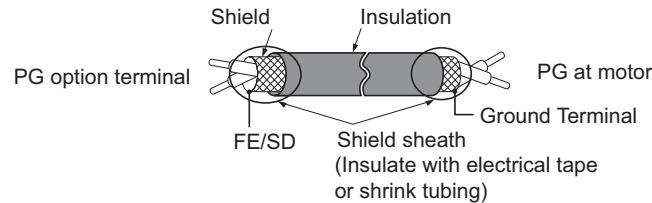
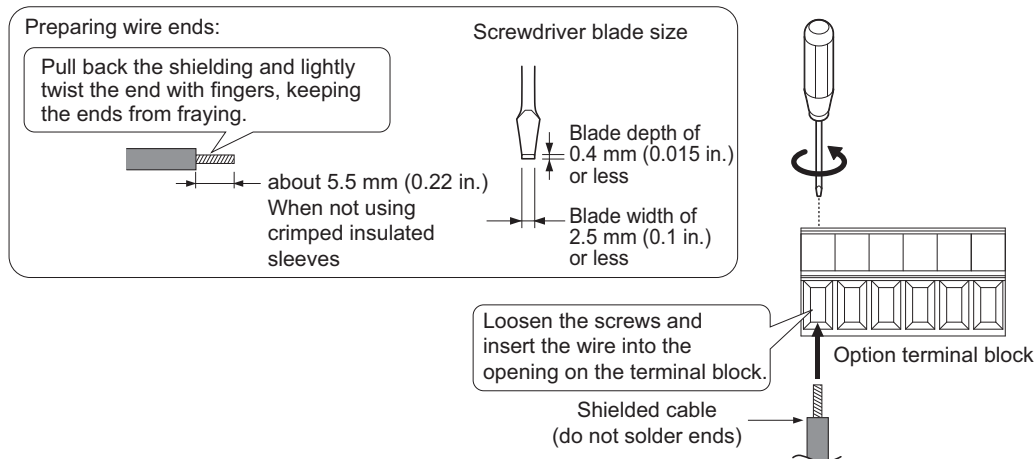

Figure 8.6 Preparing Ends of Shielded Cable
Figure 8.7 Preparing and Connecting Cable Wiring
2. There are two screw holes on the drive for use as ground terminals (I). When connecting three options, two ground wires will need to share the same drive ground terminal.
4. Prepare and connect the wire ends as shown in Figure 8.6 and Figure 8.7. **Wire Gauges and Tightening Torques on page 371** to confirm that the proper tightening torque is applied to each terminal. Take particular precaution to ensure that each wire is properly connected and wire insulation is not accidentally pinched into electrical terminals.